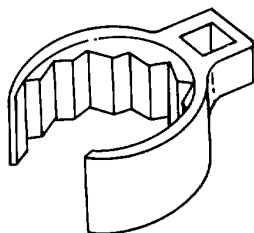

Figure 7-20. Crowfoot Wrench
**7-15. Crowfoot Wrenches.** The crowfoot wrench is an open-end wrench head which is turned with a socket handle. It is used to remove and install bolts or nuts where an obstruction would prevent the use of a regular socket. A typical crowfoot wrench is shown in figure 7-20.